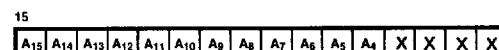

Figure 13. System Stack Limit Register
**Single-Step (SS).** While this bit is set to 1, the CPU is in single-stepping mode; while this bit is cleared to 0, automatic single-stepping is disabled. This bit is automatically cleared when a trap or interrupt is taken.
**Breakpoint-on-Halt Enable (BH).** While this bit is set to 1, the CPU generates a Breakpoint trap whenever a HALT instruction is encountered; while this bit is cleared to 0, the HALT instruction is executed normally.
**System Stack Limit Register.** This 16-bit register (Figure 13) indicates when a System Stack Overflow Warning trap is to be generated. If enabled, by setting a control bit in the Trap Control register, pushes onto the system stack cause the 12 most significant bits in this register to be compared to the upper 12 bits of the system Stack Pointer and a trap is generated if they match.